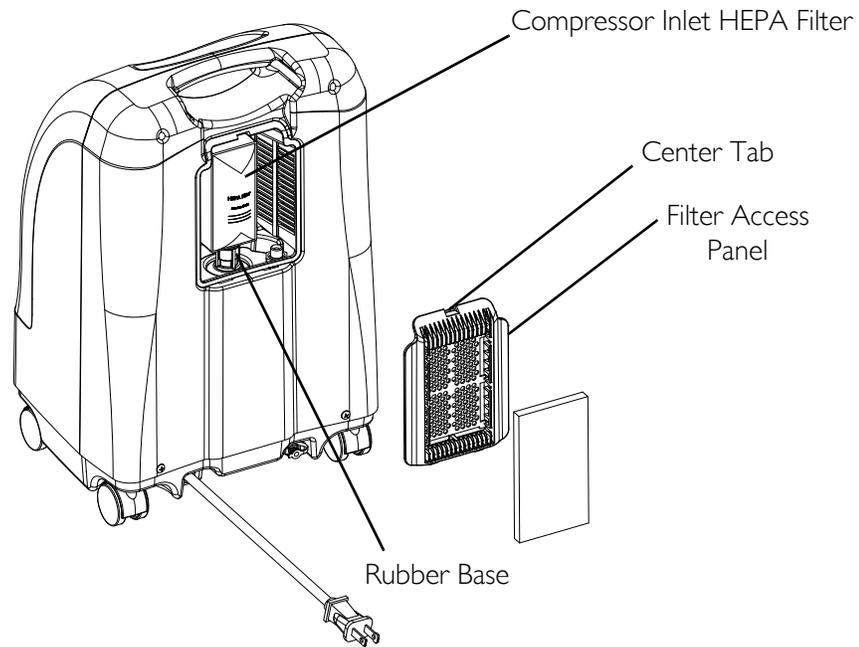

FIGURE 6.3 Replacing the Compressor Inlet HEPA Filter
3. For easier access to the outlet hepa filter, remove the compressor inlet hepa filter by grasping the compressor inlet filter, pull outward and up until filter is dislodged from rubber base (FIGURE 6.3).
NOTE: For this procedure, refer to FIGURE 6.3 on page 27.